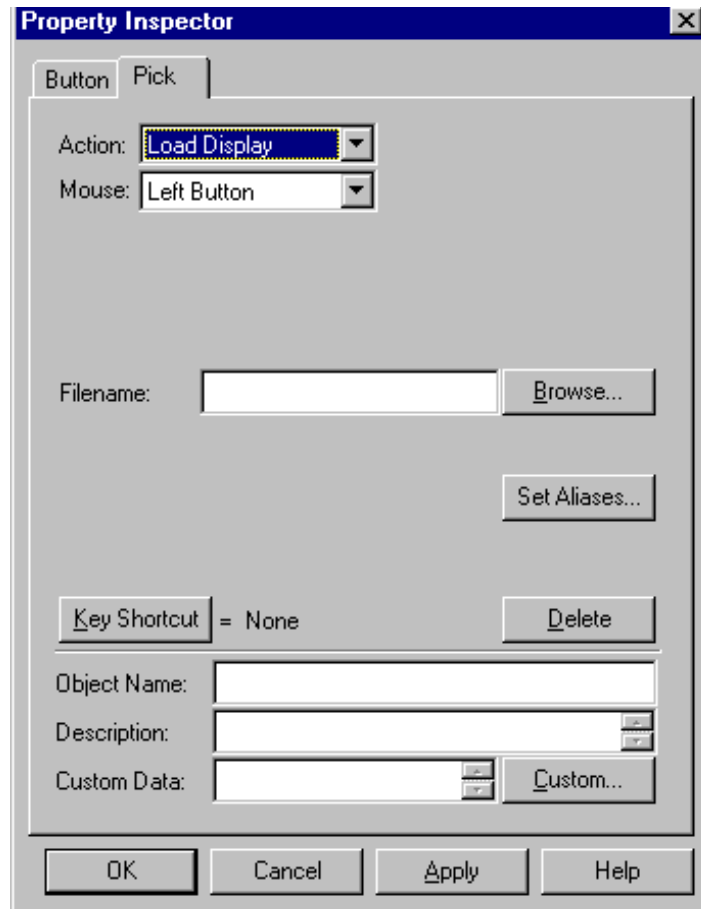

Figure 11-16: Property Inspector for Pushbutton Dynamic
2. Click in the work area. The Property Inspector appears with tabs for Pick (same tab as the pick dynamic) and Button (Figure 11-16).